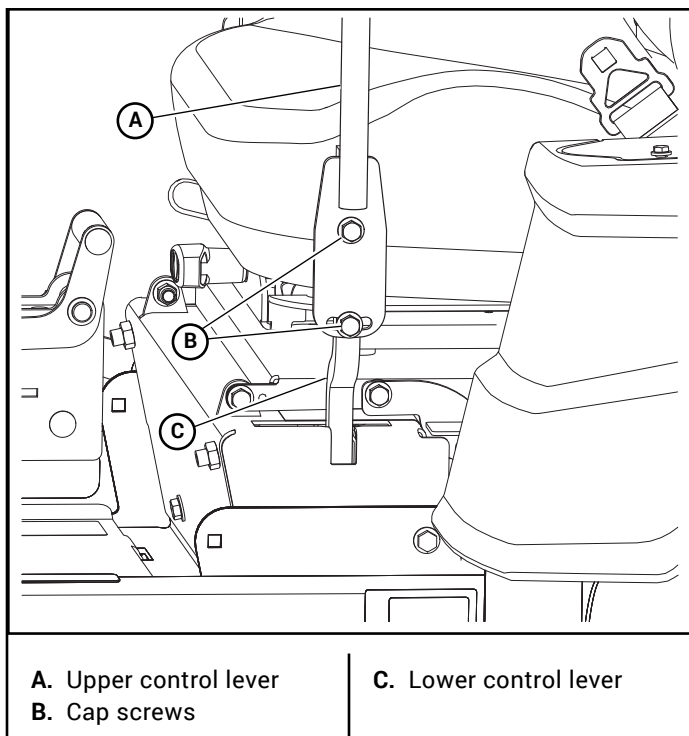

Figure 4-21
- A. To pivot the upper control levers forward or rearward, loosen the cap screws that attach the upper control lever to the lower lever. Then, pivot the upper control lever. Tighten the cap screws. Figure 4-21
- B. To lower and raise the control levers, remove the cap screws. Slide the upper control lever up or down and align the holes in it with the holes in the lower lever. Re-install the cap screws and tighten. Figure 4-21